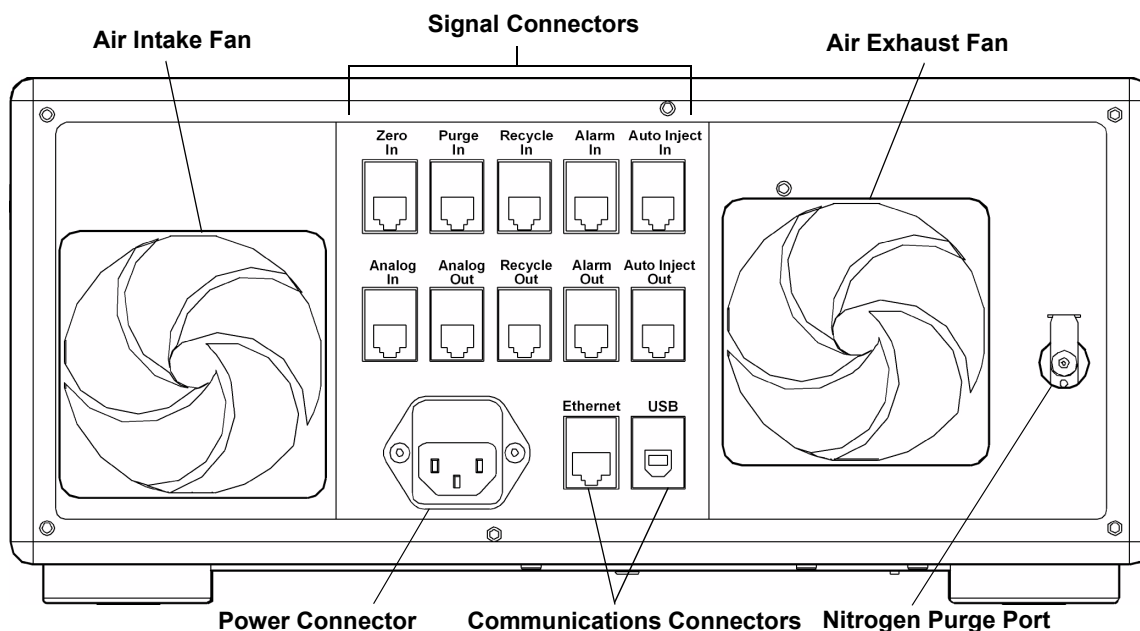

Figure 2-4: Rear Panel
3. **Attach back panel connectors.** See Section 3.2 “Connecting Power and Signals” on page 3-7. The power outlet is located on the ViscoStar rear panel (see Figure 2-4). The power supply is universal, for immediate use with 100–120 V or 220–240 V power at 50-60 Hz.
The rear panel, see Figure 2-4, provides access for power, signal connections, the cooling fan, air filter, the exhaust fan, and a nitrogen purge port.